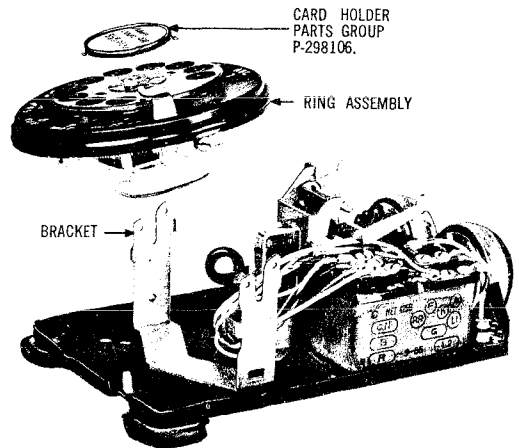

**Fig. 28 — Lamp Assembly, 500UR Set**
- (f) *Dial Light*: to remove, turn lamp cap and lamp counterclockwise (Fig. 28) and lift out.
**Lamp Assembly Shown in Fig. 28.**